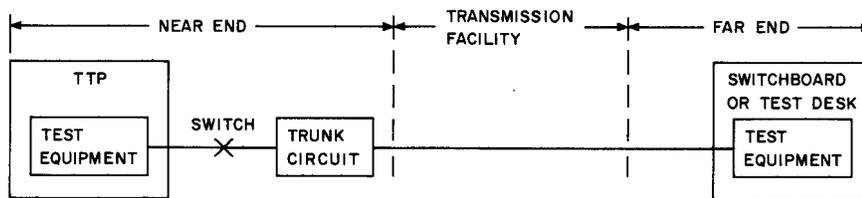

Fig. 1—Transmission Measurement to Switchboard- or Desk-Ended Trunk
3.01 When testing switchboard- or desk-ended trunks, use procedures specified in tests performed using 101-type test line with the following changes (Fig. 1).